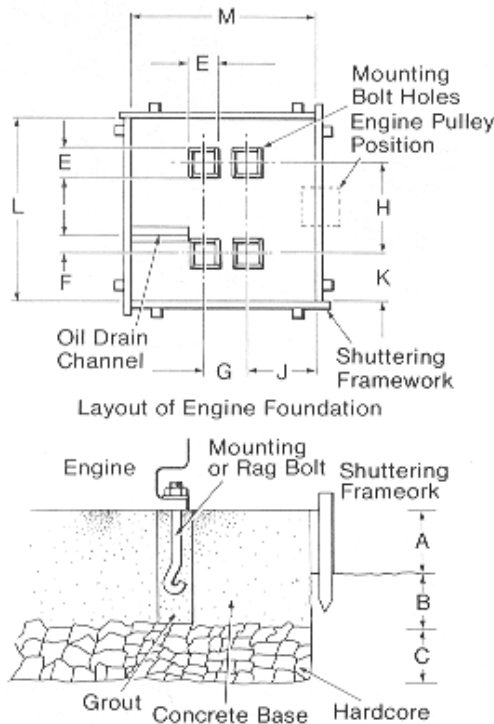

Figure 1.2 Foundations
**1.8** To mount engines on a concrete base, foundations must be prepared as shown in Figure 1.2. The dimensions shown are for normal site conditions with solid subsoil and should be enlarged upon or a raft constructed, if a soft or made up ground condition exists. Surfaces should finish about 25mm (1 in.) below the dimensions given to allow for grouting up. Foundation bolts can be supplied to special order only.